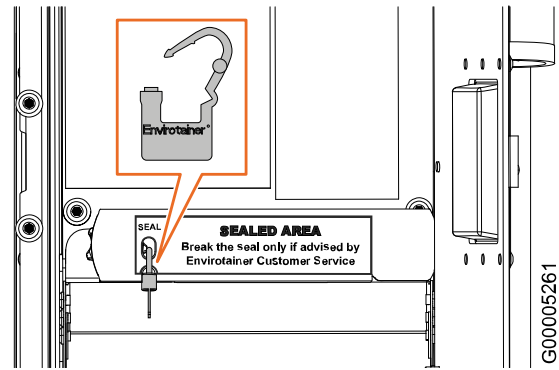

Fig. 25
2. Remove the seal from the bracket on the adapter case (**Fig. 25**).